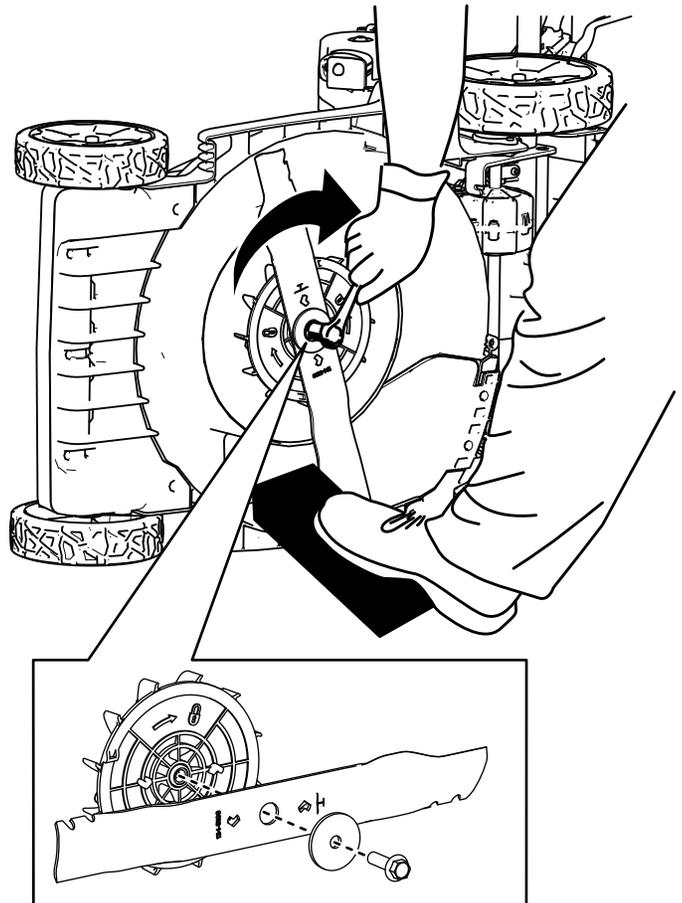

Figure 25
4. Install the new blade, washer, and blade bolt (Figure 25).